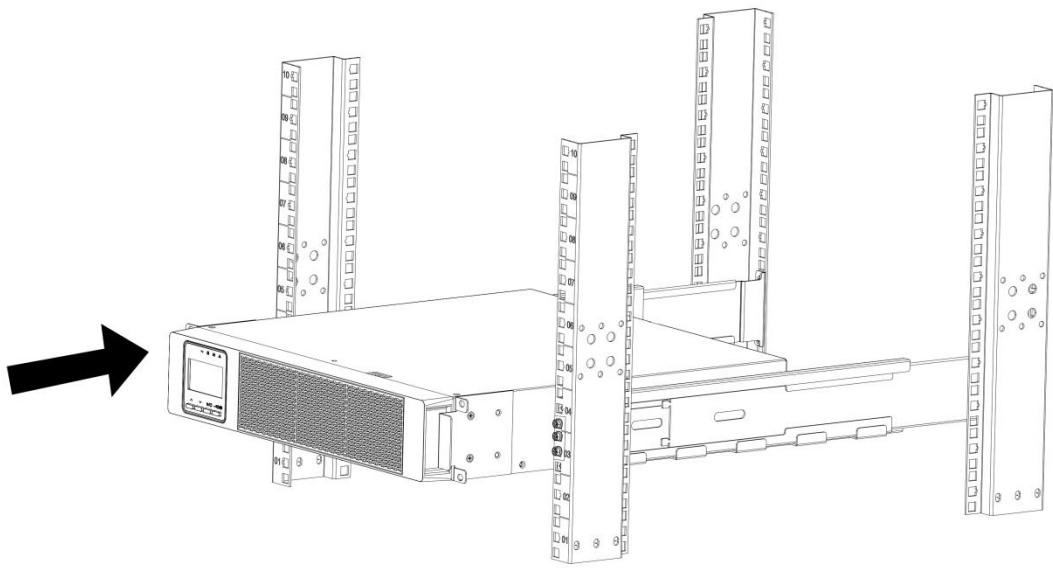

Figure 42: Slide MBS into the Rack MBS
39. After installing the mounting brackets onto the MBS, slide the MBS into the rack on the rail kit (see Figure 42).